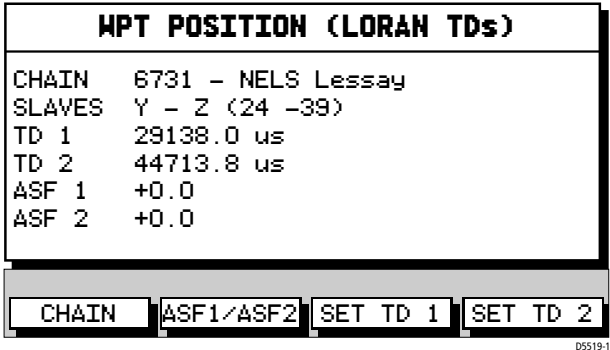

Figure 3-24: Waypoint Position Screen (Loran TDs)
2. Press the MAKE NEW WAYPOINT followed by the LORAN TDs soft key; the WPT POSITION (LORAN TDs) screen is displayed, together with it's associated soft keys, see *Figure 3-24*.